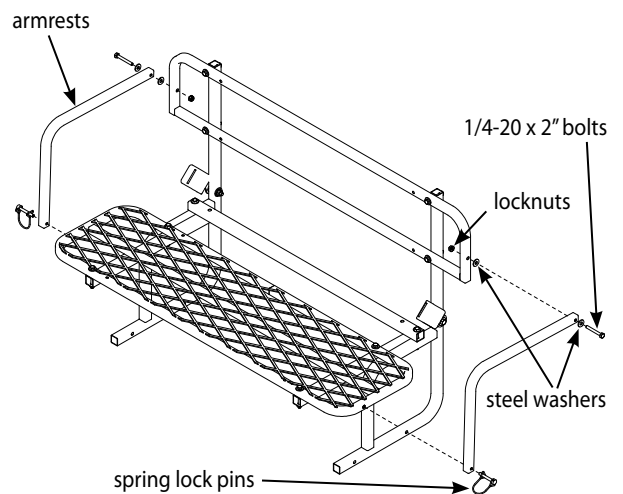

Figure 3
7. Attach the two armrests (A685) to the outside of backrest frame using (2) provided 1/4-20 x 2" hex head bolts, locknuts and (4) 1/4" steel washers. **SEE FIGURE 3.**